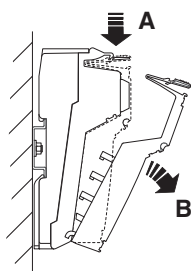
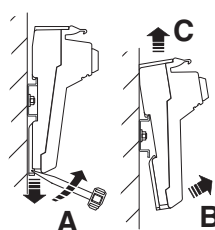

Fig. 10-13 Removing a connector
Fig. 10-14 Removing the base
- Lever up the connector to be removed by pressing on the back connector shaft latching (Fig. 10-13, A).
- Remove the connector (B).
- Insert a tool in the base latch and pull gently upwards (Fig. 10-14, A). Pull out the module from the DIN rail (B, C).